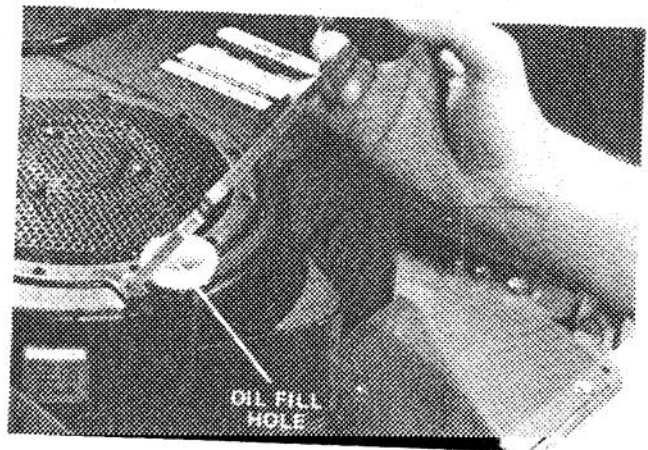

Figure 12
2. Unscrew and remove the dipstick from the oil fill tube (Fig. 12).